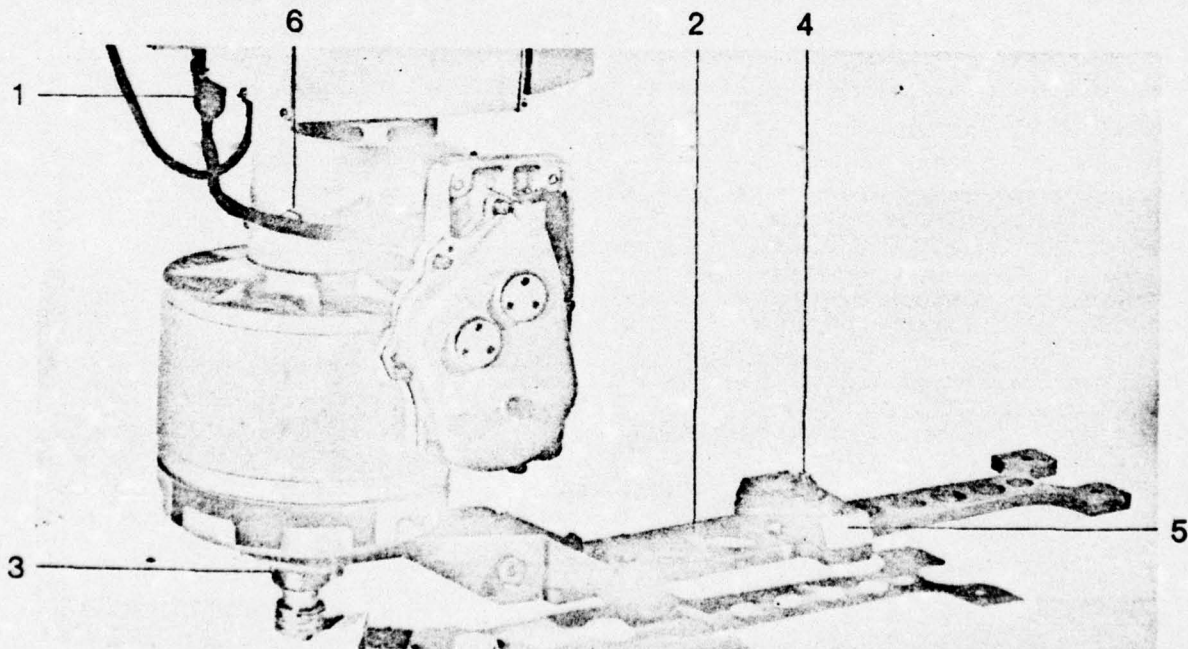
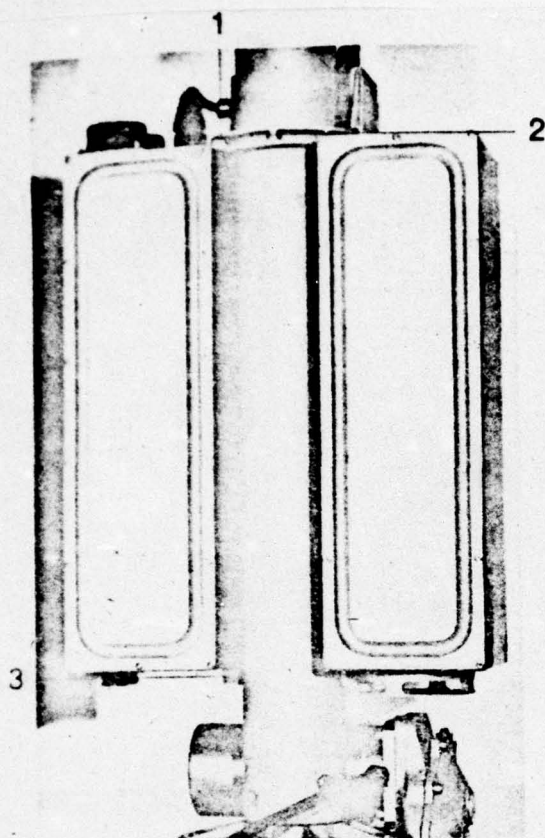
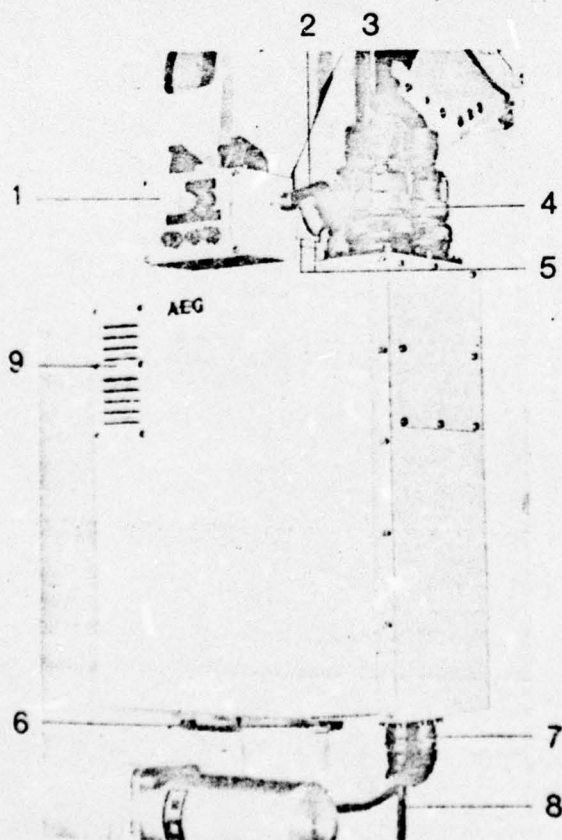
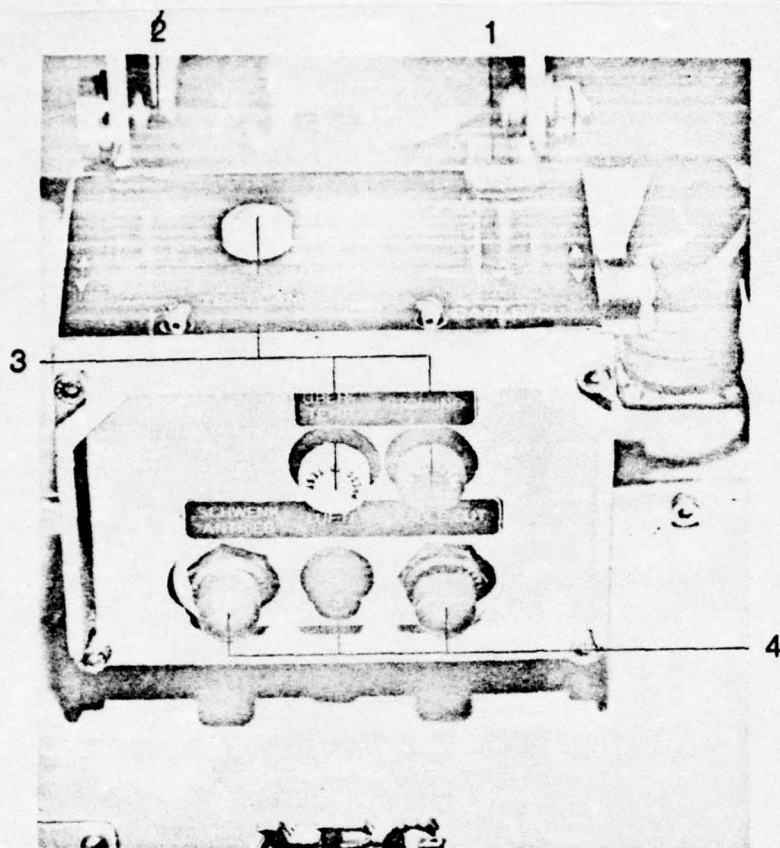

Figure 2.7
Figure 2.8
Figure 2.9
Figure 2.10
8. Check proper seat on lower fastening bolt and close lower quick-release fastener (Figure 2.7).
10. Check height adjustment of the jib by slewing in and out manually (swivel 2, Figure 2.7 not yet fastened on the cabin floor). The upper rubber strip of the door opening can be lightly contacted with proper adjustment.
11. Before fastening down the swivel, the tension piece (5, Figure 2.7) is to be installed in accordance with the selected installation position after unscrewing two countersunk screws M8 x 30 DIN 7991 using a hexagonal socket screw wrench $s = 5$ mm on one of the two possible places on the swivel. Figure 2.7 shows the tension piece for the rear installation positions 2, Figure 2.1 and 4, Figure 2.1. Installation is to be made at the end of the swivel (cf. Section 2.1.1) for installation positions 1, Figure 2.1 and 3, Figure 2.1.
Thereupon, the swivel is folded over and the quick-release fastener (4, Figure 2.7) is again screwed tight using an open-end wrench or box-end wrench -- $s = 11/16$ ".
1. The electronic equipment box is set on the mast using two catches (3, Figure 2.8) on the lower side slanting from the top inwards in such a way that the catches grasp the supporting pins (6, Figure 2.9) extending out transversely on both sides of the mast.
At this point, the electronic equipment box is pressed against the mast, the clamping strap (2, Figure 2.8) slewed around the mast on the upper side and the captive pin (1, Figure 2.8) locked using a screwdriver by means of a 90° turn in the shim.
3. The connecting cable (1, Figure 2.7 and 7, Figure 2.9) solidly attached to the slewing gear is to be plugged into the electronic equipment box and screwed tight.
4. The connecting cable (4, Figure 2.9) well attached to the jib is to be plugged into the electronic equipment box and screwed down.
5. The manual control unit (5, Figure 1.1) is to be connected with the electronic equipment box using the 1.5 m long connecting cable (6, Figure 1.1 and 8, Figure 2.9).
6. The 2 m long connecting cable for power supply connection (7, Figure 1.1 and 3, Figure 2.9) is to be plugged into the electronic equipment box and screwed down.
The switch (1, Figure 2.10 and 2, Figure 2.10) located on the control unit for CABLE CUT and TEST as well as the CABLE CUT switch located on the HYDRAULIC CONTROL PANEL for the pilot must be closed and secured with thin copper wire before the equipment is switched in; otherwise, there is the danger of cable cut. For performance testing, the three safety switches located in the helicopter are first to be switched in and through which the 28 V-GS power supply is switched through to the socket.
If all itemized safety switches are activated, then the fan motors on the hoisting gear and on the electronic equipment box commence operation which can be acoustically checked. A perceptible flow of air comes out of both exhaust vents at the motor (Figure 2.5) and on the electronic equipment box (9, Figure 2.9). When operating normally, no one of the three indicator lights (3, Figure 2.10) installed on the control unit should light up. The equipment is now ready for operation.
The cable cutter provided with an electrically ignitable explosive charge can be actuated by two switches both provided with a red switch tab. The pilot's switch is located on the HYDRAULIC CONTROL PANEL whereas the hoist operator's switch is located above on the control unit of the electronic equipment box. The test elements are also arranged at the same point (Figure 2.10).
If the red lamp DISTURBANCE lights up on the control unit (Figure 2.10) during performance testing, it follows that the slewing gear drive is
The slewing motor is only designed for short-term operation and therefore unnecessary activity on its part is to be avoided. If this precaution is not observed, it is possible for the safety switch SLEWING DRIVE to be triggered in the control equipment (Figure 2.10). It can be pressed in again after a short cooling period. The slewing gear is then again ready for operation.
2.3.10 The cable cutting device is only to be actuated in case of danger. The actuation switch for the hoist operator is directly above on the control unit under a red cover flap and designated by CABLE CUT (Figure 2.10).